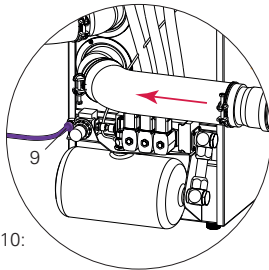

Fig. 10:
- Plug the enclosed 8mm compressed air hose firmly into the swivelling connector on the pressure reducer, Fig.10, take care to overcome the pressure point of the sealing.